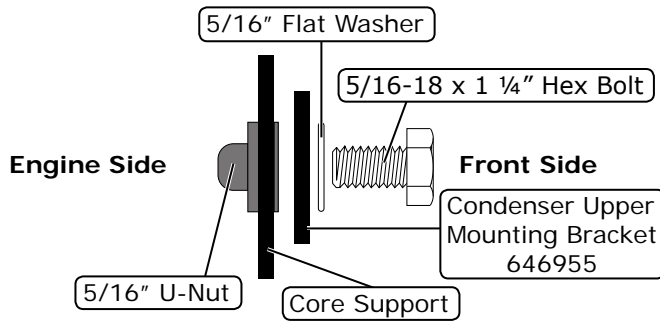

Figure 1
1. Lubricate and install a #6 O-ring onto the #6 condenser/drier hardline (See Figure 1, Page 13). Connect the #6 condenser/drier hardline to the #6 condenser fitting as shown in Photo 1, below.
4. Lubricate and install a #8 O-ring onto the #8 condenser/compressor hardline (See Figure 1, Page 13). Install the #8 condenser/compressor hardline onto the #8 condenser fitting (See Photo 5, below).
5. Install a #4 Adel clamp onto the #8 condenser/compressor hardline. Mark and drill a 9/64" hole into the core support as shown in Figure 1 and Photo 6, below.